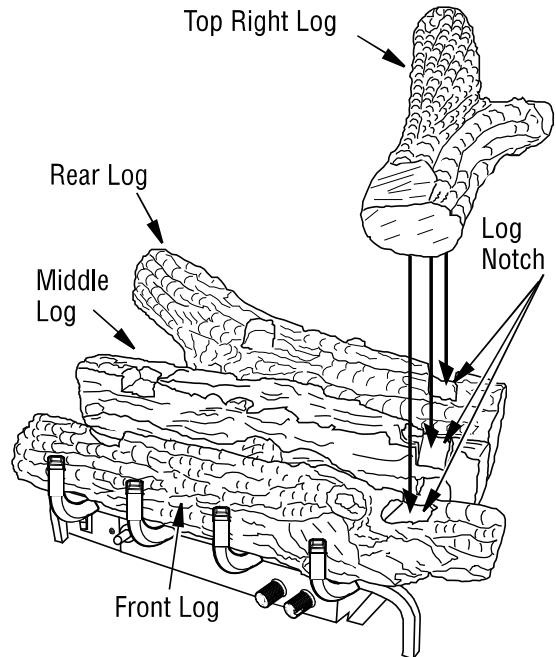

Figure 24 - Installing Top Right Log
- Place the top right log onto the rear, middle and front logs as shown in **Figure 24**. The rear, middle and front logs has notches for the top right log to set into. You may have to move the front log from left to right to get it to line up with the top right log.